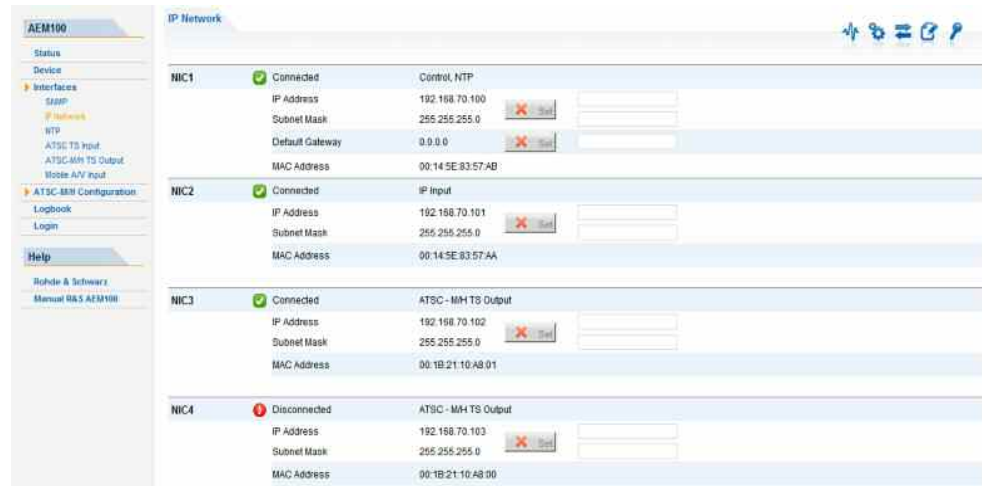

Figure 12: Page Interfaces/IP Network
- ▶ To integrate the R&S® AEM100 into your network, please change the IP address of the device. Click on "Interfaces" in the navigation bar, then "IP Network" and insert the IP address and subnet mask for NIC1 (see Figure 12: Page Interfaces/IP Network). If the R&S® AEM100 is located behind a router, the gateway address must also be defined, to assure the communication. After changing the IP address of the device, the R&S® AEM100 is no longer accessible from the remote device. To re-establish the access between the two, please change the IP address of the remote device, too.